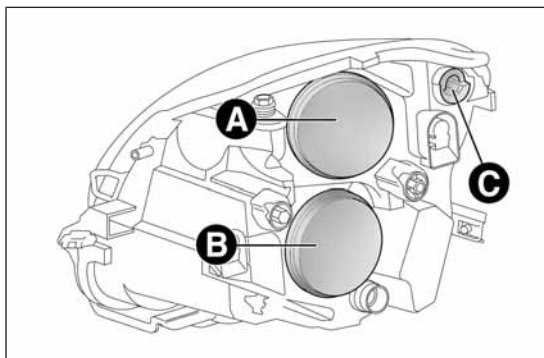

fig. 134
These contain the bulbs for the side lights/daytime running lights (DRL), dipped beams, main beams and direction indicators. The bulbs are arranged as follows fig. 134:
- ☐ remove cover A fig. 134;
- ☐ refit cover A fig. 134.
- ☐ remove cover B fig. 134;
- ☐ refit cover B fig. 134.